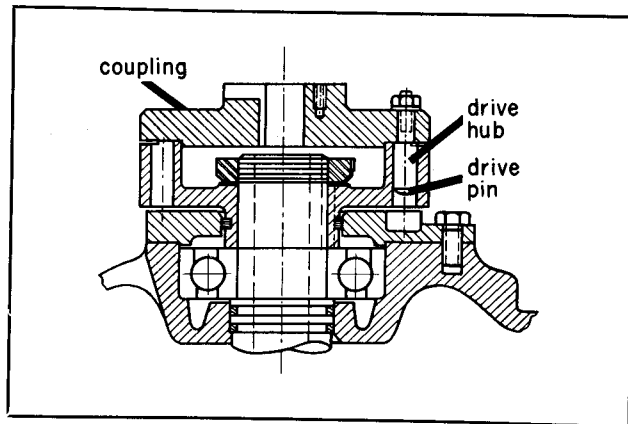

FIG. 2. Pin Type Coupling
2. **Clutch Type.** These motors are equipped with a disengaging clutch that consists of a coupling and a drive hub. The drive hub is keyed to the motor shaft, and the coupling is keyed to the pump shaft and attached through a screw to the adjusting nut. The coupling centers on the drive hub by means of a machined fit. The coupling is driven by two pins attached to the coupling and engaging corresponding holes in the drive hub. Disengagement of the clutch is caused by a lifting of the pump shaft which separates the pins in the coupling from the holes in the drive hub. Refer to Figure 2.